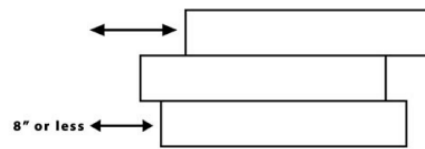

Figure 1
- When setting, tile should be only slightly staggered so that the ends of the tiles are within 8" or less from the ends of the corresponding staggered tile. (See figure 1).